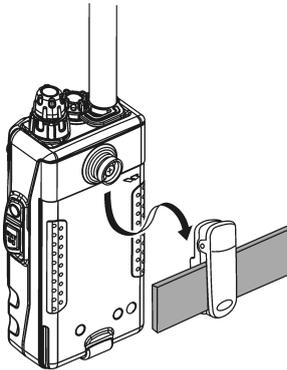

Figure 3
- To install the **VXA-300** into the Quick-Draw Belt Clip, align the hanger with the Quick-Draw Belt Clip, and slide the **VXA-300** into its slot until a click is heard (Figure 3).